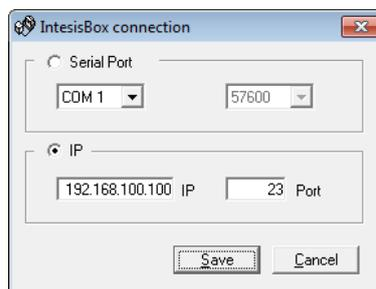

Figure 6.1 Connection window
2. Select the connection method (Figure 6.1) from Serial port or IP and configure their parameters. Once finished click on Save. If when using IP connection the IP of the IntesisBox is not known follow instructions in point 3